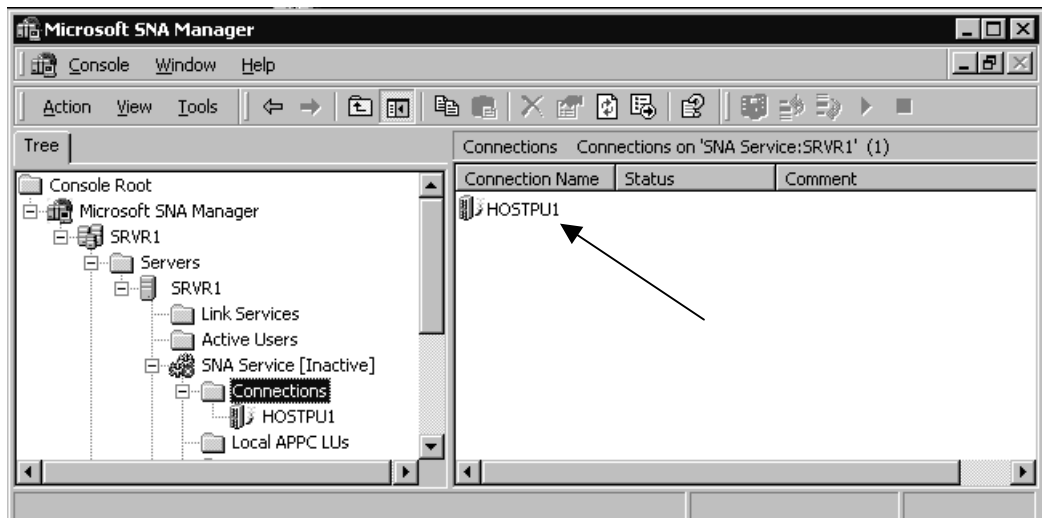

Figure 15-16. ESCON Connection (PU)
2. Verify that a connection is defined to the link service (Figure 15-16).